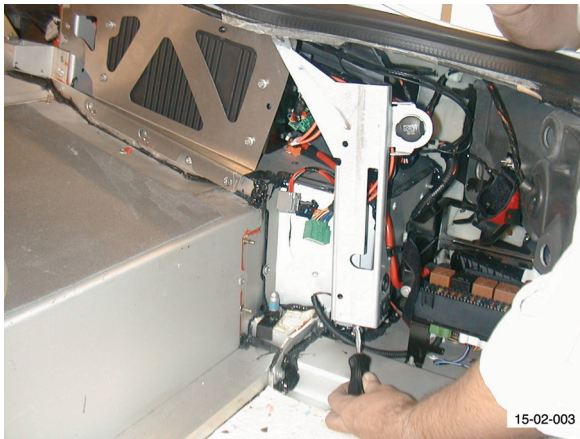

Fig. 1
4. Remove bolt (x1) and nuts (x2) from power socket bracket to body (see Fig. 1).